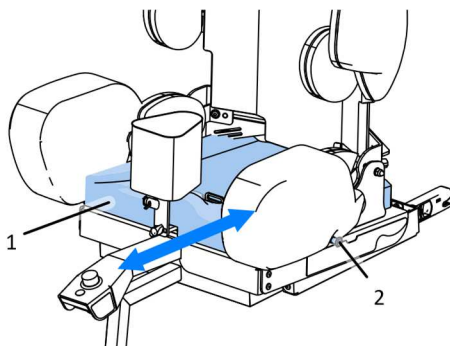

Fig. 15
7.1 Seat depth adjustment (Fig. 15)